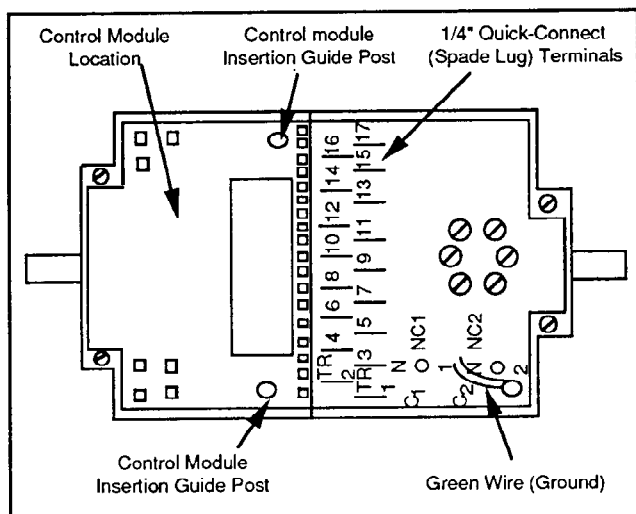
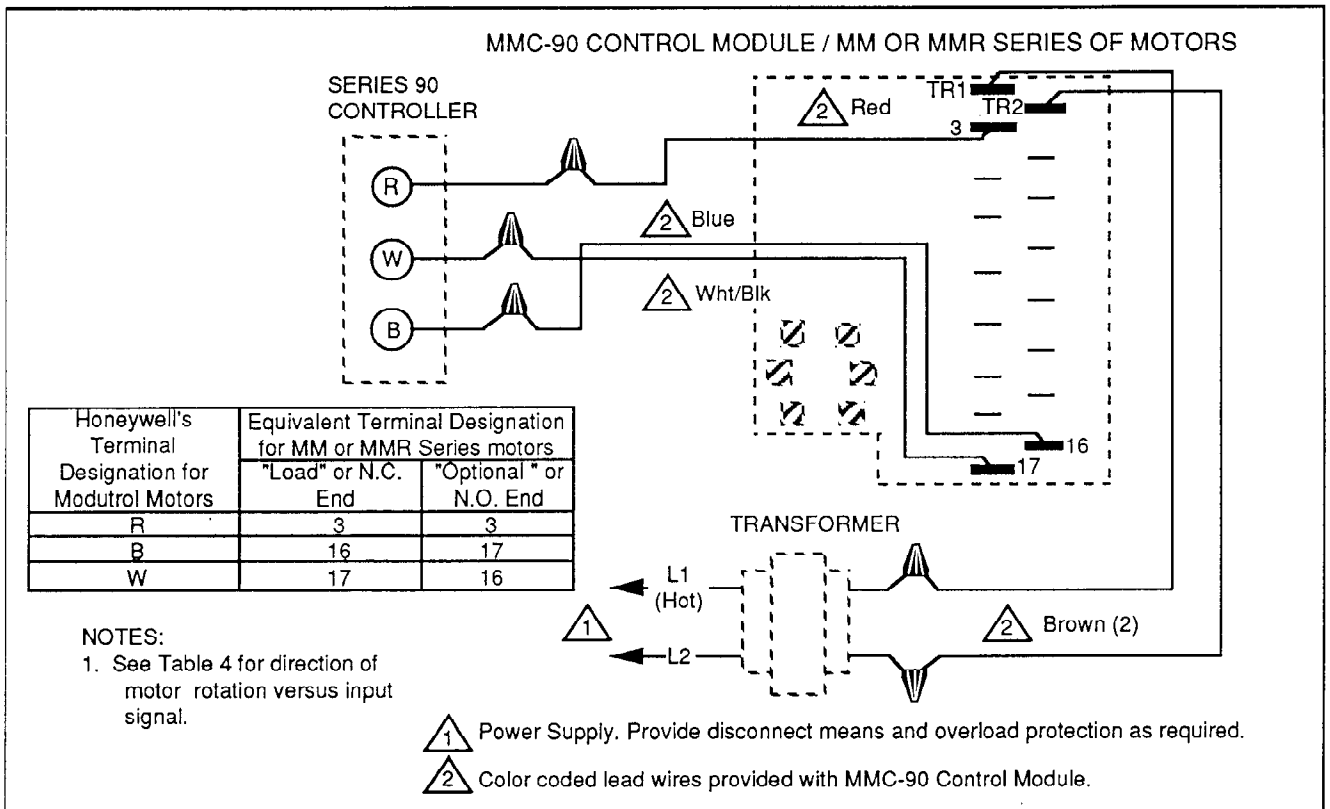

Figure 2. Terminal Board Connections and Control Module Location
FIGURE 5. - MMC-90 Control Module and MM or MMR Series of Motors Used with a Series 90 (135Ω Slidewire) Controller
2. Pick up the control module by the metal installation handle and install the MMC-90 control module into the motor wiring compartment by aligning the module and carefully pushing all the way onto the pins. Press in the area around both sides of the vertical part of handle. (See Figure 2).
4. Make the wiring connections in accordance with the wiring diagram (See Figures 5 through 17). The field connections are made to 6" (152.4 mm) long color coded leads. **Note:** The color coded leads are supplied with MMC-90 and have 1/4" female disconnects crimped to them. Install the leads to 1/4" spade lugs on the terminal board, refer to Figure 2. See Table 1 for power wiring selection.
Table 4. Direction of Rotation of MM or MMR Series of Motors Versus Series 90 (135Ω Slidewire) See Figures 5 through 8.